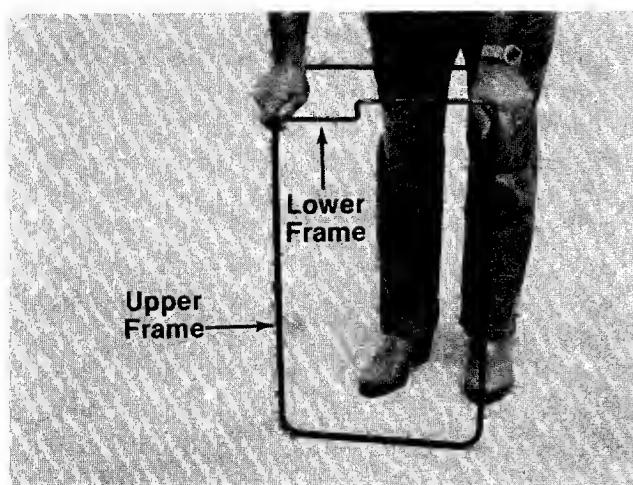

FIGURE 11.
1. Join the upper frame and lower frame assembly as shown in figure 11.